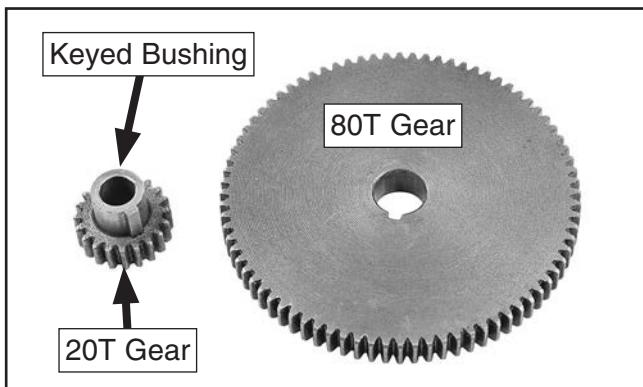

Figure 80. 20T gear removed from 80T gear.
12. Remove 20T gear with keyed bushing from 80T gear (see **Figure 80**).